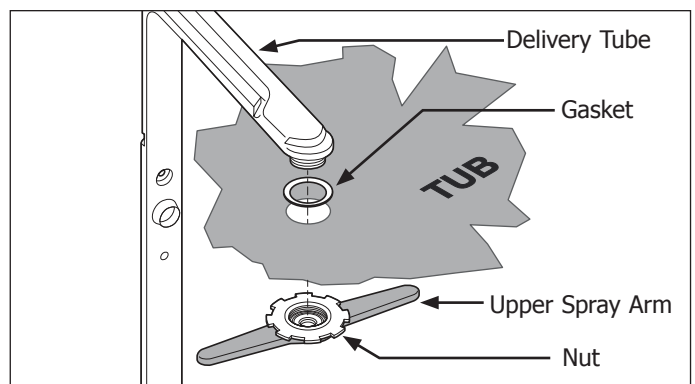

Figure 4-17.
3. Turn nut counter clockwise and remove from delivery tube. (See Figure 4-17)